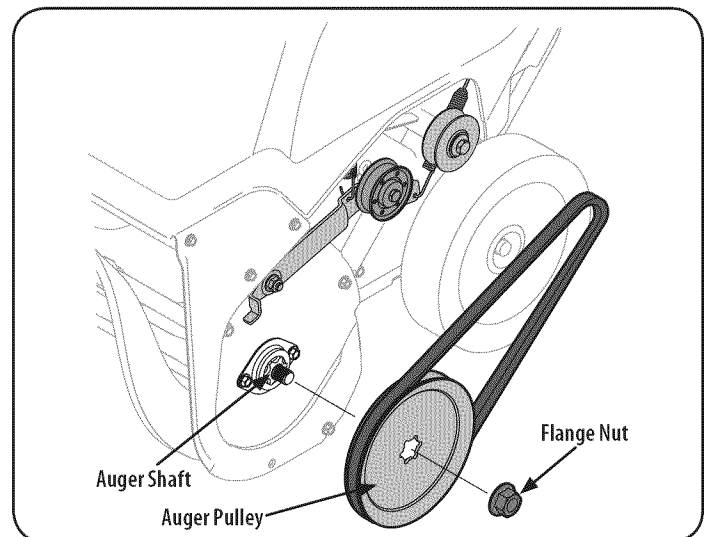

Figure 17
5. Remove the flange nut that secures the auger pulley to the auger shaft. See Figure 17.